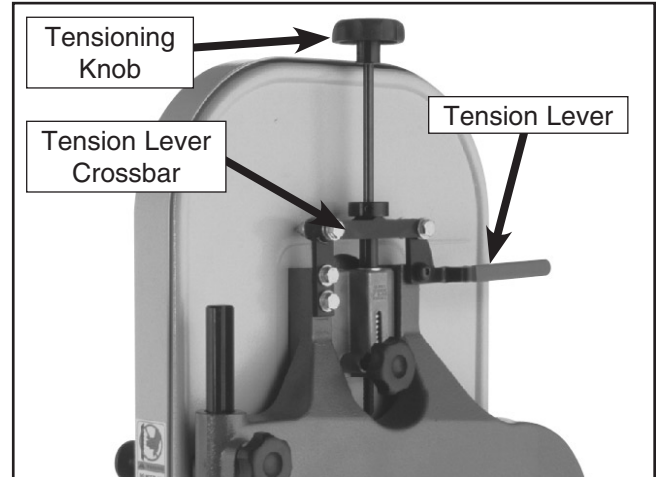
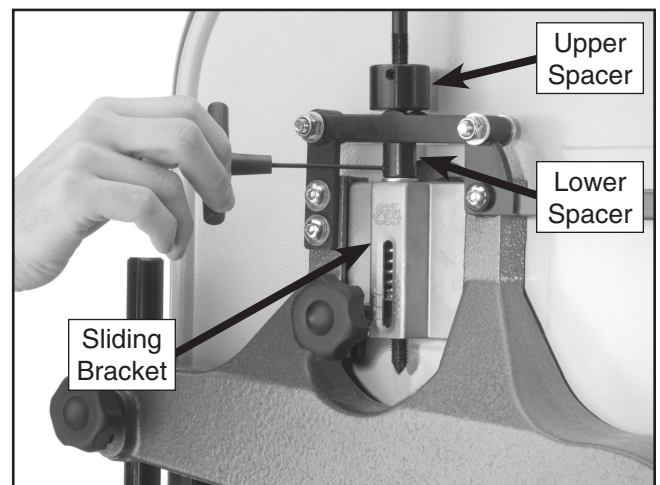

Figure 1. Blade tension lever.
Figure 2. Loosening the spacer setscrews.
2. Release the tension lever shown in **Figure 1**, and remove the old bandsaw blade.
4. Loosen the setscrews in both of the spacers indicated in **Figure 2**, and back the spacers away from the tension lever crossbar shown in **Figure 1**.
6. Pull up on the tensioning knob (**Figure 1**) until the blade touches the wheel. Thread the upper spacer down until it touches the top of the tension lever crossbar.
9. Thread the lower spacer down until it touches the top of the sliding bracket indicated in **Figure 2**.
10. Move the lower spacer back up the shaft about 1-2 turns to leave a small space, and tighten the setscrew (**Figure 2**).